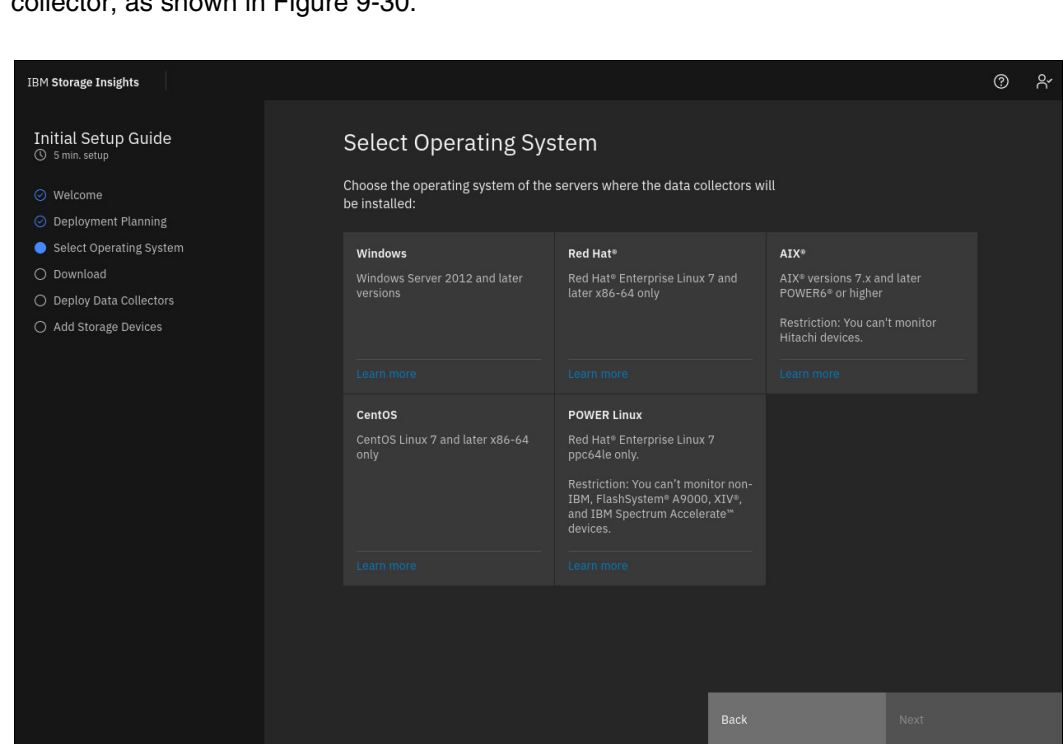

Figure 9-30 Select Operating System window
- 1. Select the candidate operating system of the host that will be used to install the data collector, as shown in Figure 9-30.